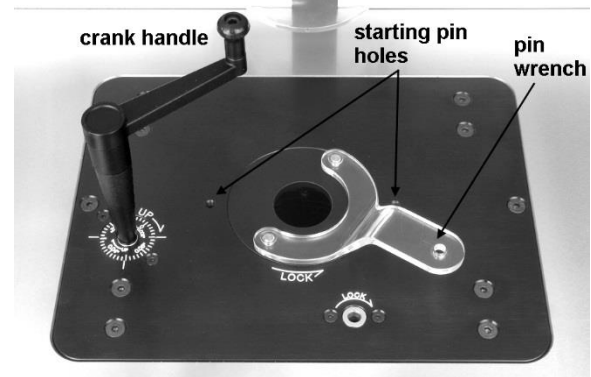
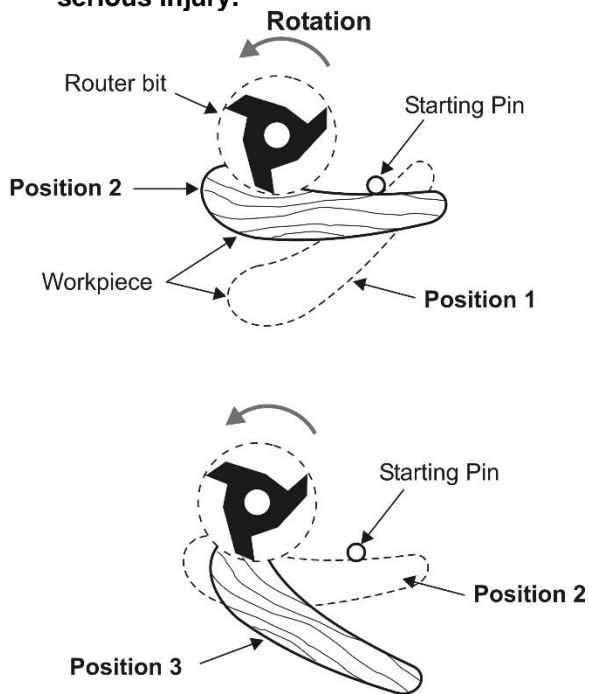

Figure 7-3
Figure 8-2
- The starting pin can be inserted into one of two holes in the router plate (see Figure 7-3). It is used as a support to help pivot the workpiece into the bit when doing freehand work. See Figure 8-2.